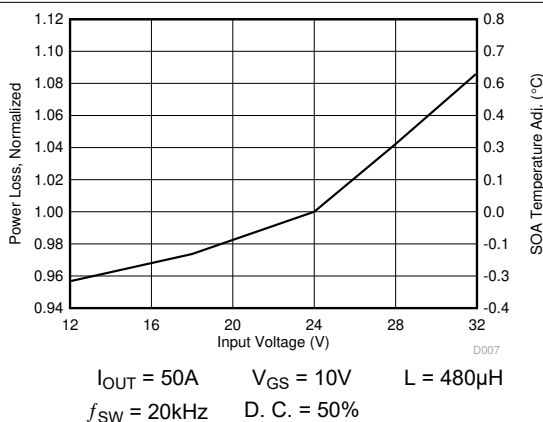

图 4-5. Normalized Power Loss vs Input Voltage
- Normalized power loss for input voltage  $\approx$  1.09 (图 4-5)
- SOA adjustment for input voltage  $\approx$  0.6°C (图 4-5)